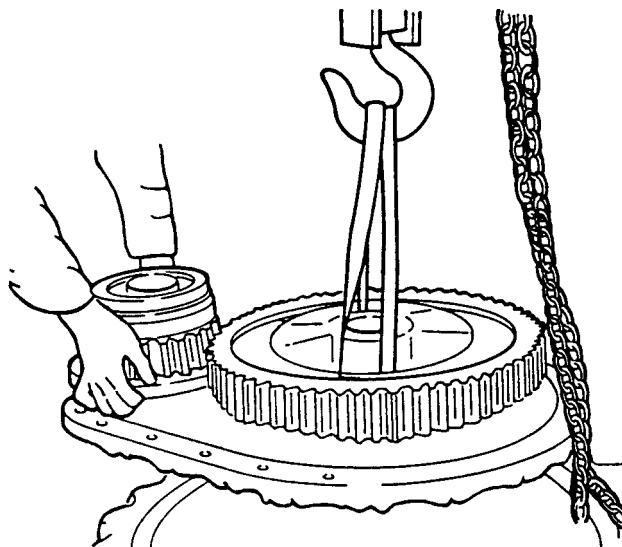

Fig. 8.5. Pinion Gear Assembly
1. Set sprocket drive assembly down on housing (23) so that gear (10) is up.
2. Rotate bull gear (10) so retaining ring (11) hooks are showing. Through hole in gear remove ring up out of its groove.
3. Remove bolts and washers securing housing (2) to cover (1). Attach a hoist to bull gear hub (Fig. 8.5.) and lift slowly until gear (10) contacts housing (2). Install jack screws in holes provided in housing (2) and free housing from cover (1). Remove housing.